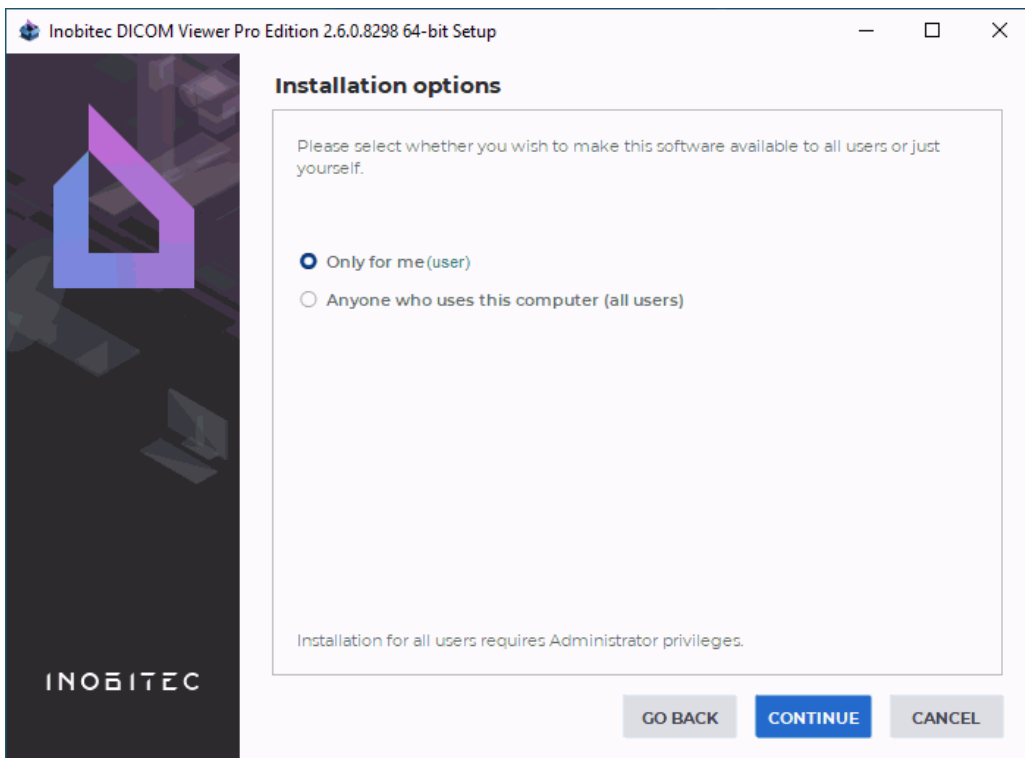

Figure 4: Select users
5. Select for whom you want to install the program (Fig. 4). If you select **Anyone who uses this computer (all users)**, then the program will be installed to the system folder, and you will need administrative privileges.